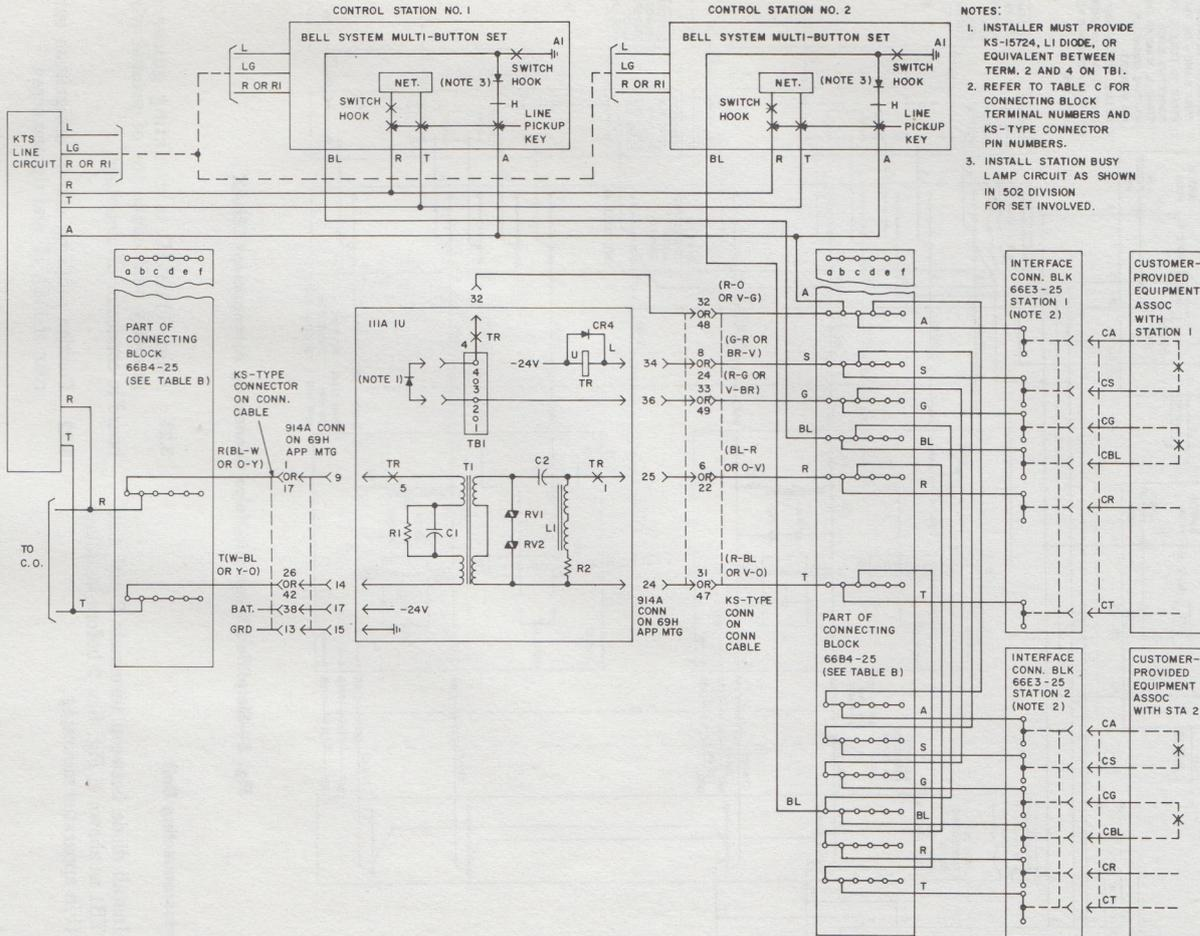

Fig. 9—Simplified Schematic—Voice Connecting Arrangement CEBBX
4.02 *Connection—Voice Connecting Arrangement CEBBX* (Fig. 9)
CEBBX (Fig. 9)